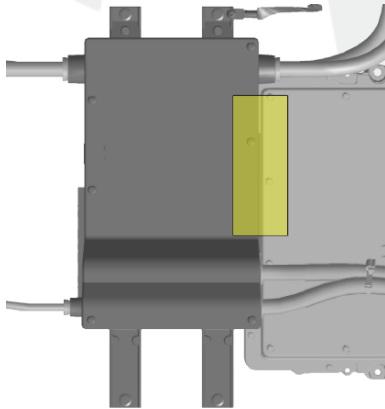

**Figure 3 (1st generation; conductive tape highlighted)**
- At the rear of the HVJB (Figures 3 and 4):